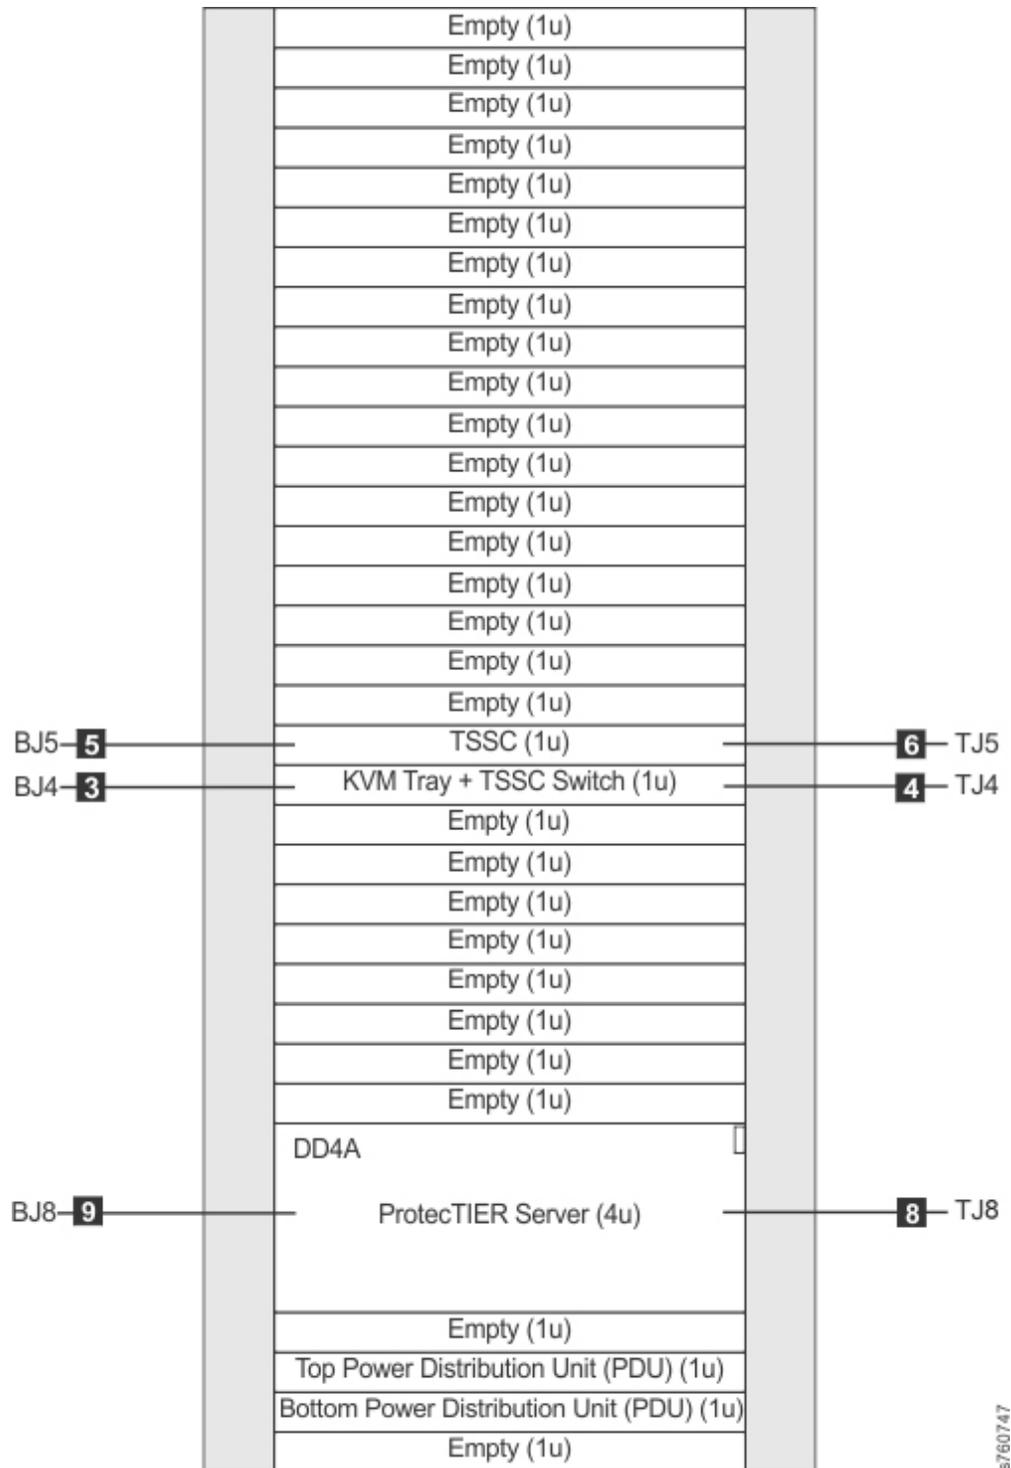

Figure 11. Stand-alone power connections
Note: The power distribution units (PDUs) may have been preinstalled in the recommended frame in a location different from that shown in the illustration. For consistency and ease when troubleshooting, you may want to relocate the PDUs to match Figure 11 on page 37.
1. Label and connect the power cords according to Figure 11 on page 37 and Table 8 on page 37.